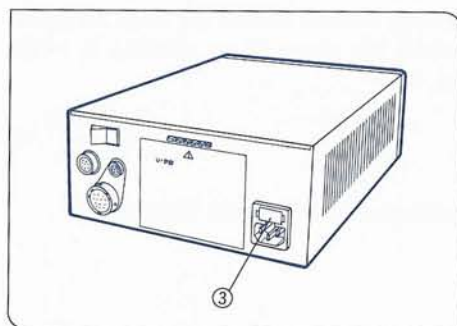

Fig. 20
③ Before replacing fuses, set the main switch to OFF and unplug the power cord. (The power cord should be unplugged from the AC receptacle to allow removal of the fuse cassette.)
1. Remove the fuse cassette ③ by squeezing it at both sides and pulling outward. (Fig. 20)